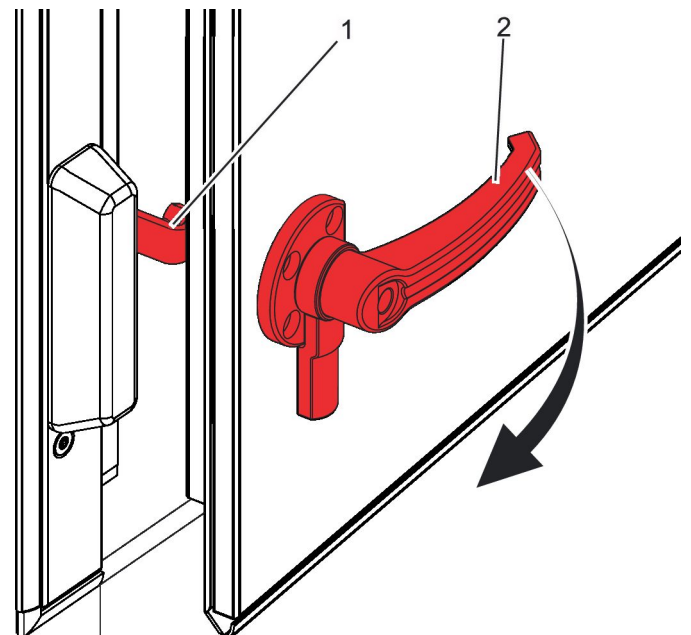

Fig. 52: Releasing the safety catch
3. ▶ Turn the door handle (Fig. 52 /2) clockwise by 90° .
⇒ This releases the safety catch (Fig. 52 /1); the inspection access door can now be completely opened.